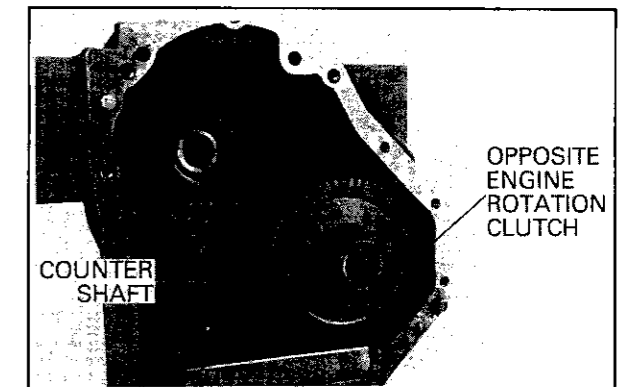

FIG. 11 ENGINE ROTATION CLUTCH REMOVAL
6. Lift straight up on the input shaft to remove the engine rotation clutch along with the input shaft from the transmission (Fig. 11).